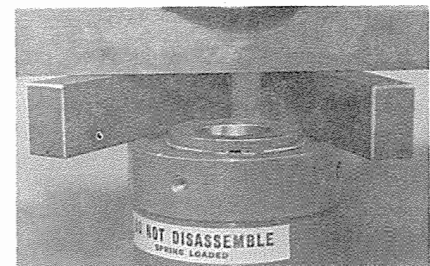

Figure 23
6. Three pieces of steel to form press stand-off. See Figure 23.
6. Place press stand-off blocks as shown in Figure 23. These must be placed to allow removal of the snap ring. Lower press.